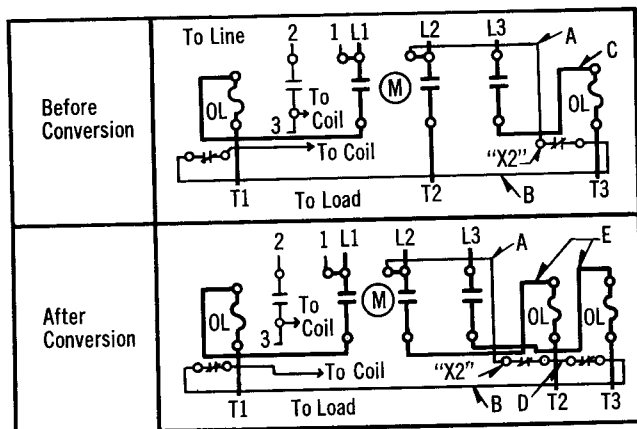

Figure 4 - Wiring Diagram
2. Disconnect red control wire (A), see Figure 4, from front terminal only of RH overload relay. (This wire is omitted on starters wired for separate control.)
3. Disconnect black wire (C) from contactor to overload relay and discard.
5. Move existing RH overload relay to outboard RH side (starter should still have red control wire (B) connected) and insert the third overload relay from kit (with adjusting knob up) where RH overload relay was mounted. Mount both relays to contactor base using long screws (2) from kit and lock washers and nuts removed in (4) above.
6. Connect red wire (A) and short red wire (D) from kit as shown in Figures 4 and 6.
7. Connect black wires (E) from kit between top (line) terminals of the RH overload relays to the bottom (load) terminals of the contactor as shown in wiring diagram, Figure 4.